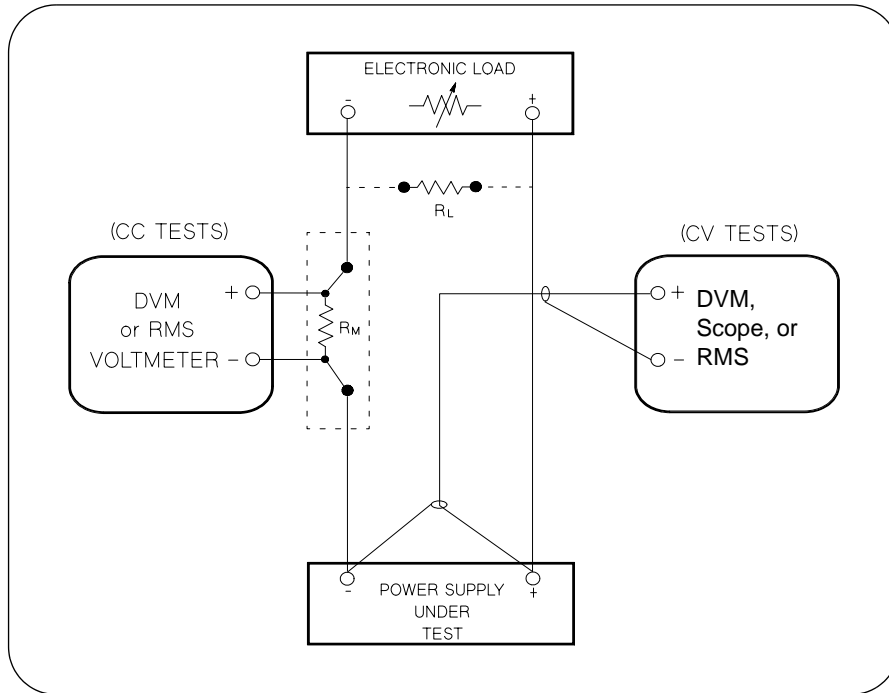

Figure A-1 Performance Verification Test Setup
Most tests are performed at the front terminals as shown in Figure A-1. Measure the dc voltage directly at the (+) and (-) terminals on the front panel.
To eliminate output current measurement error caused by the voltage drops in the leads and connections, connect the current monitoring resistor between the (-) output terminal and the load as a four-terminal device. Connect the current-monitoring leads inside the load-lead connections directly at the monitoring points on the resistor element (see R_M in Figure A-1).
- 1 Turn off the power supply and connect a digital voltmeter between the (+) and (-) terminals of the output to be tested as shown in Figure A-1.
- 1 Turn off the power supply and connect a digital voltmeter between the (+) and (-) terminals of the output as shown in Figure A-1.
- 4 Operate the electronic load in open mode (input off). Record the output voltage reading on the digital voltmeter again. The difference between the digital voltmeter readings in steps (3) and (4) is the CV load regulation. The difference of the readings should be within the limit of (5 mV)* or (9 mV)**.
- 1** Turn off the power supply and connect a digital voltmeter between the (+) and (-) terminals of the output to be tested as shown in Figure A-1.
- 6** Adjust the transformer to high line voltage (127 Vac for nominal 115 Vac, 110 Vac for nominal 100 Vac, or 253 Vac for nominal 230 Vac). Record the voltage reading on the digital voltmeter. The difference between the digital voltmeter readings in steps (5) and (6) is the CV line regulation. The difference of the readings should be within the limit of (5 mV)* or (9 mV)**.
- 1 Turn off the power supply and connect the output to be tested as shown in Figure A-1 to an oscilloscope (ac coupled) between (+) and (-) terminals. Set the oscilloscope to AC mode and bandwidth limit to 20 MHz. Connect a resistive load (13.5Ω)[‡] to the terminal at (B) as shown above.
- 1 Turn off the power supply and connect the output to be tested as shown in Figure A-1 with an oscilloscope. Operate the electronic load in constant current mode.
- 1 Turn off the power supply and connect a $0.01\ \Omega$ current monitoring resistor (R_{M1}) across the output to be tested and a digital voltmeter across the current monitoring resistor (R_{M1}) as shown in Figure A-1.